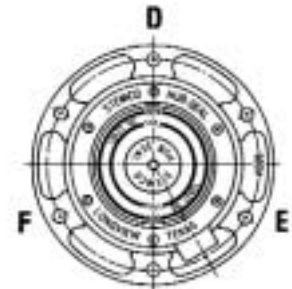

Figure 4
2. **FOR SIX-HOLE HUBCAPS**, remove bolts D, E and F and install standoffs. Torque to 12 ft/lbs maximum. (See Figure 4)